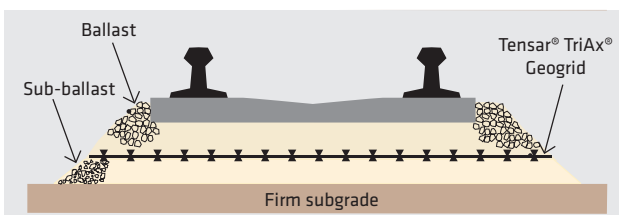

FIGURE 3b: Ballast stabilization leads to increased maintenance intervals.
- ▶ Ballast Stabilization – installed between the ballast and sub-ballast layers, TriAx Geogrids limit lateral particle migration and thereby minimize track settlement. This helps increase the period between maintenance cycles by three to five times (Figure 3b).